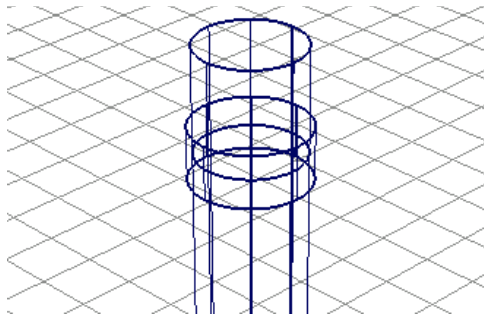

Figure 2-121 Model after creating the base of the eraser
2. Enter **0, 0, 1000** in the promptline and press ENTER; the base of the eraser is created, as shown in Figure 2-121.